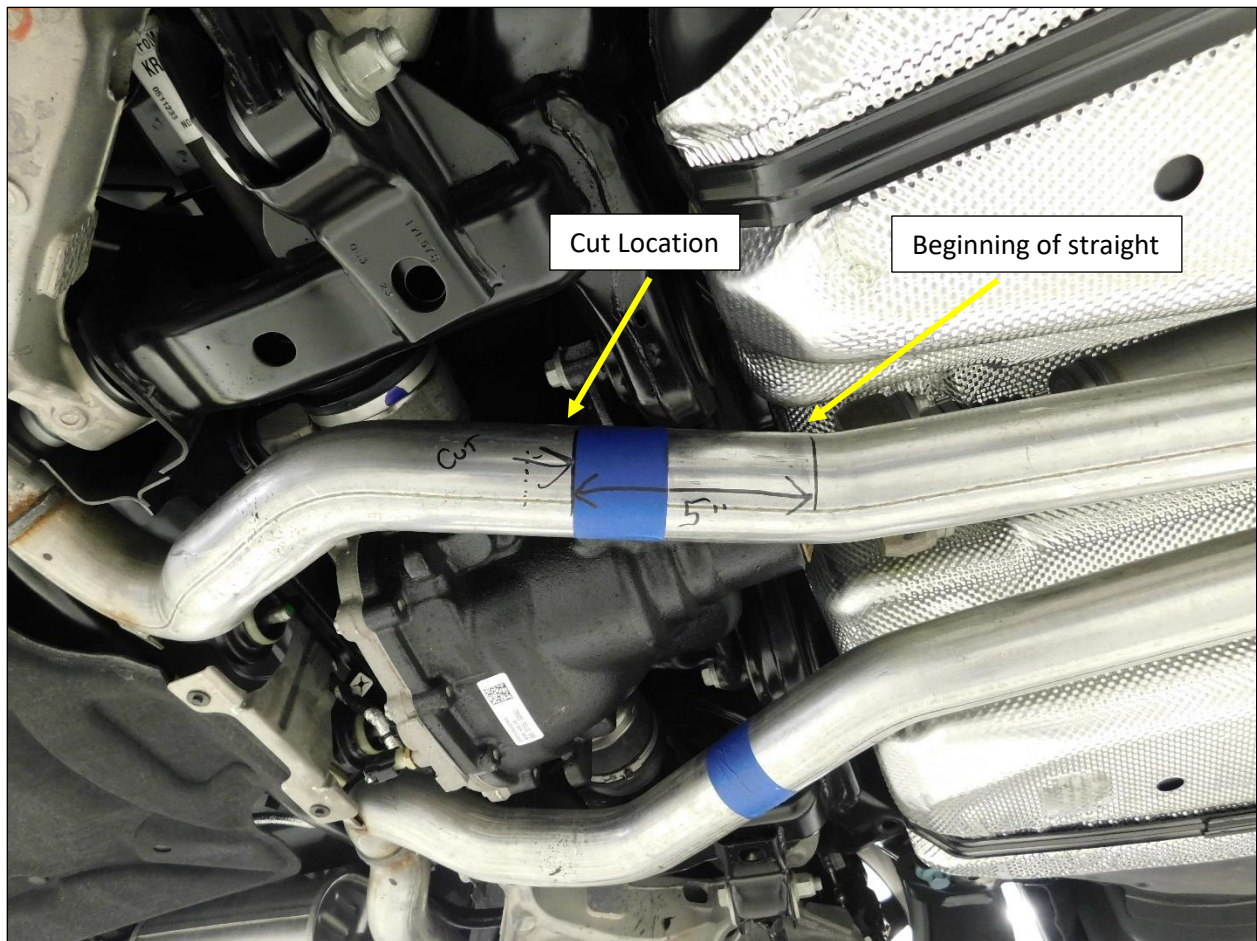

Figure 3
4. Mark the exhaust pipe between the center resonator and the muffler, as shown in **Fig.3**
- Use a reciprocating saw or cut off wheel and cut the exhaust at the edge of the tape, as shown in **Fig. 3**.